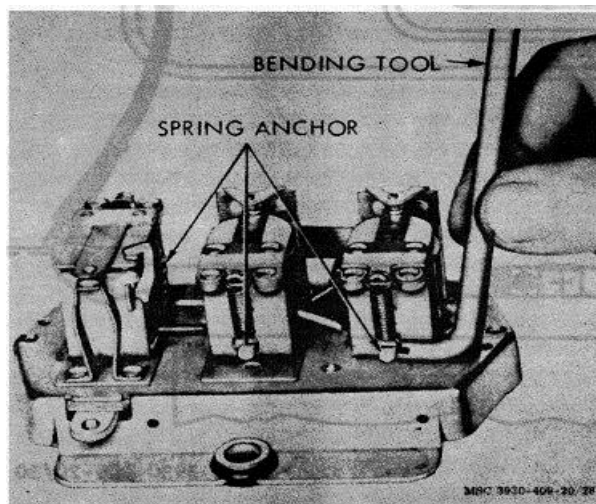

Figure 3-22. Voltage regulator spring anchor adjustment
6. If closing voltage is not within limits, bend lower armature spring hanger (fig. 3-22). If opening amperage is not within limits, recheck point opening ((h) above).